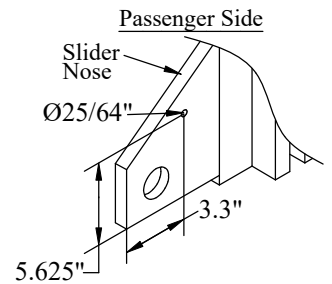

Figure 7: Torsion spring holder hole location.
1. Mark and Drill a 25/64" hole in the passenger side slider nose at the location shown, if needed (Figure 7).